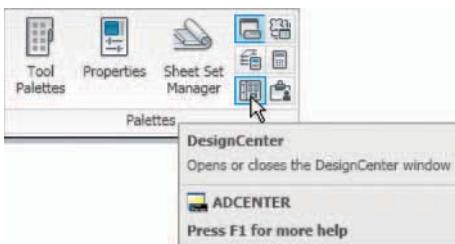

Fig. 14.2 Calling the DesignCenter from the View/Palettes panel
4. Open the **DesignCenter** from the **View/Palettes** panel (Fig. 14.2) or by pressing the **Ctrl** and **2** keys of the keyboard.